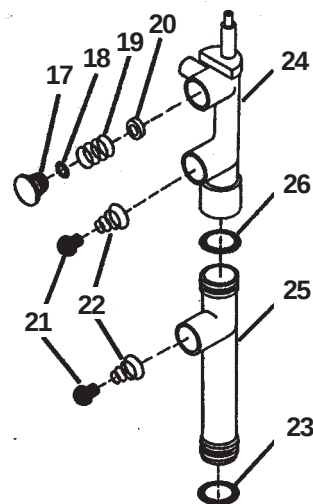

Figure 9. Pump Disassembly Step Three
(See Fig. 9)
- C. Place "O"-ring (26) onto mix transfer tube bottom (25) and lubricate. Place mix transfer tube bottom (25) into air transfer tube top (24). (See Fig. 9)
On hopper models: place mix transfer tube “O”-ring (23) onto bottom of mix transfer tube (25) and lubricate lightly. Position small end of two air/mix outlet springs (22) onto two air/mix outlet valves (21) and insert into mix transfer tube. Place valve retainer “O”-ring (18) onto valve retainer (17). Insert safety valve (20), spring (19) and valve retainer (17) into top hole of mix transfer tube. (See Fig. 9)